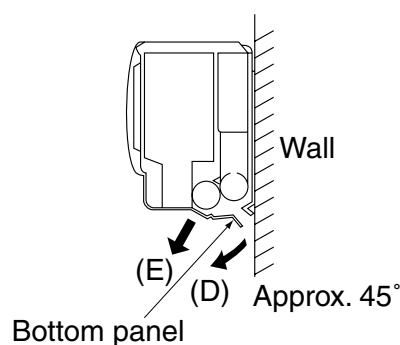

Fig. 8
- After detaching the side panels, turn the bottom panel downward (D) about 45°, and pull it outward (E). (Refer to Fig. 8)